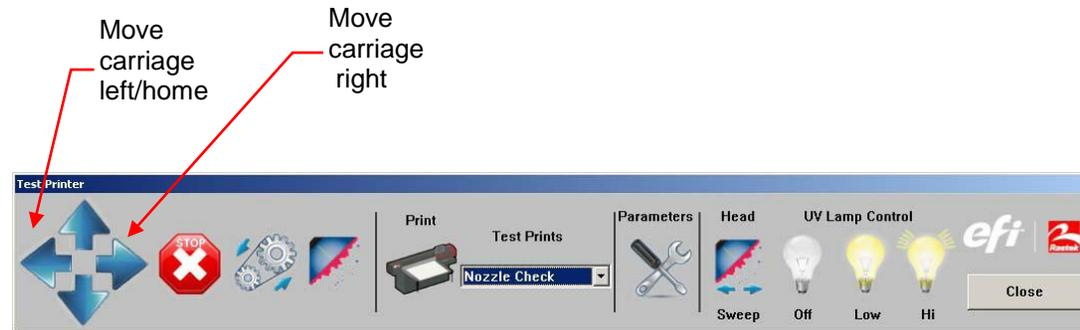

Figure 1: Test Printer Toolbar
4. Sweep the heads using the sweep icon on the **Test Printer Toolbar** shown in **Figure 1**.
- A. Open the **Test Printer Toolbar** in the GUI. See **Figure 1**.